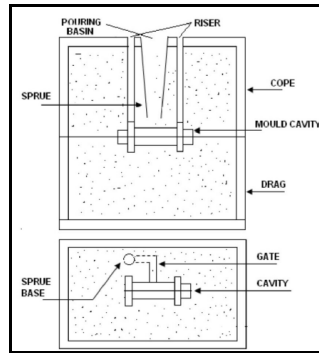

Figure 2.1. Mould for Split Pattern
- The surface of the mould which comes in contact with molted metal forms the most important part in green-sand moulds. In order to give the casting a clean and bright surface and to prevent the sand from burning on the face of the mould a layer of facing sand is given surrounding the pattern as shown in Figure 2.1.